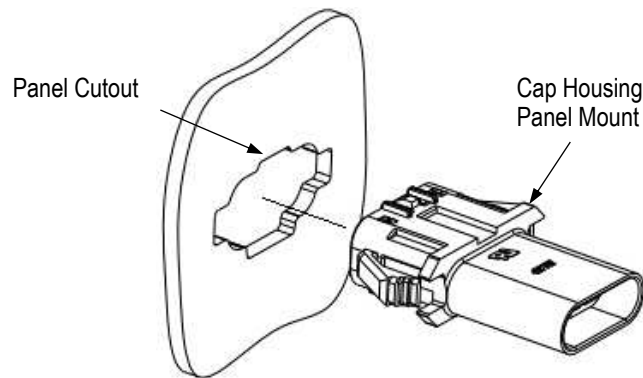

Figure 6
2. Push the cap housing through the panel in the same direction the panel cutout was made, until it snaps into place. Refer to Figure 6.